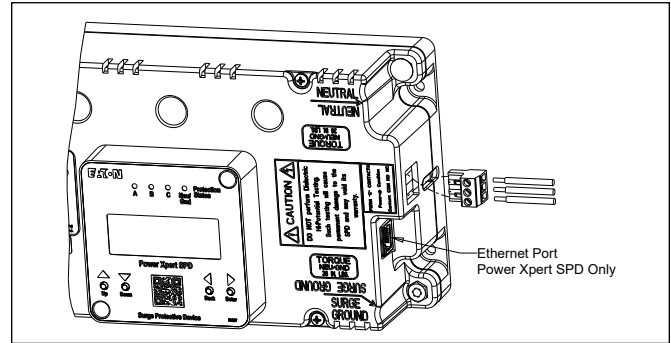

Figure 13. Form C connection
9. The SPD (Standard, Standard with Surge Counter and Power Xpert models) also have an available connection for remote monitoring of the Form C relay contacts. See Figure 13. This is a green connector located on the side of the SPD. To make the connection, remove the green connector and install the remote monitor leads (connector supports 12–24 AWG wire). Fasten the remote monitoring wires to the NO, NC and COM connection points per the label on the front of the SPD. Contacts are rated: 150 Vac at 0.46 A or 30 Vdc at 1 A. Follow all national, state and local electrical codes. With wiring complete, plug the green connector into the SPD.
8. The SPD (Standard, Standard with Surge Counter and Power Xpert models) also have a connection available for remote monitoring of the Form C relay contacts. See Figure 13. This is a green connector located on the side of the SPD. To make the connection, remove the green connector and install the remote monitor leads (connector supports 12–24 AWG wire). Fasten the remote monitoring wires to the NO, NC and COM connection points per the label on the front of the SPD. Contacts are rated: 150 Vac at 0.46 A, 30 Vdc at 1 A. Follow all national, state and local electrical codes. With wiring complete, plug the green connector into the SPD.
Some SPD units have a Form C relay contact that allows for the remote indication of SPD status. Form C contact wires are connected via a three terminal connector. See Figure 13.